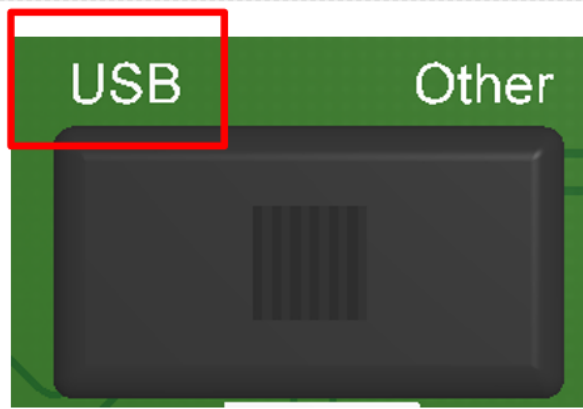

Figure 37. USB vs Other = 'USB'
- If you are going to power the programming board with USB, set the switch to "USB" as shown in Figure 37